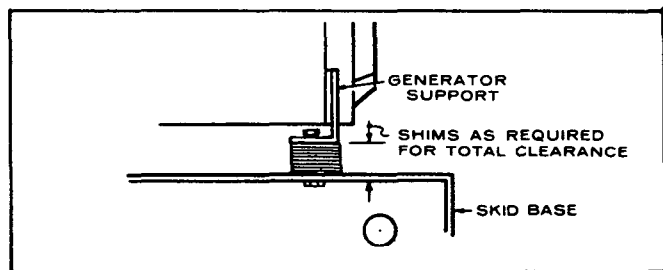

FIGURE 4
4. Remove the jackscrews and install as mounting bolts through generator support, shims and skid base. Secure and lock the mounting bolts in place (Figure 4).